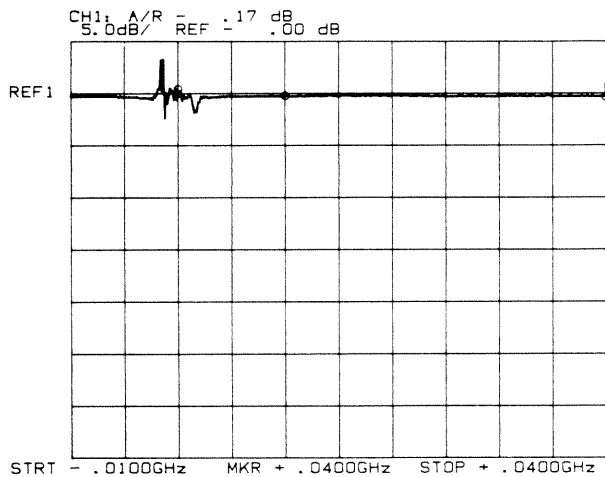

Figure 4-4. M-MEM Display
6. On the HP 8756A, select **M-MEM** (press [**DISPLAY**] until the **M-MEM** LED is on). The CRT display should be similar to Figure 4-4.